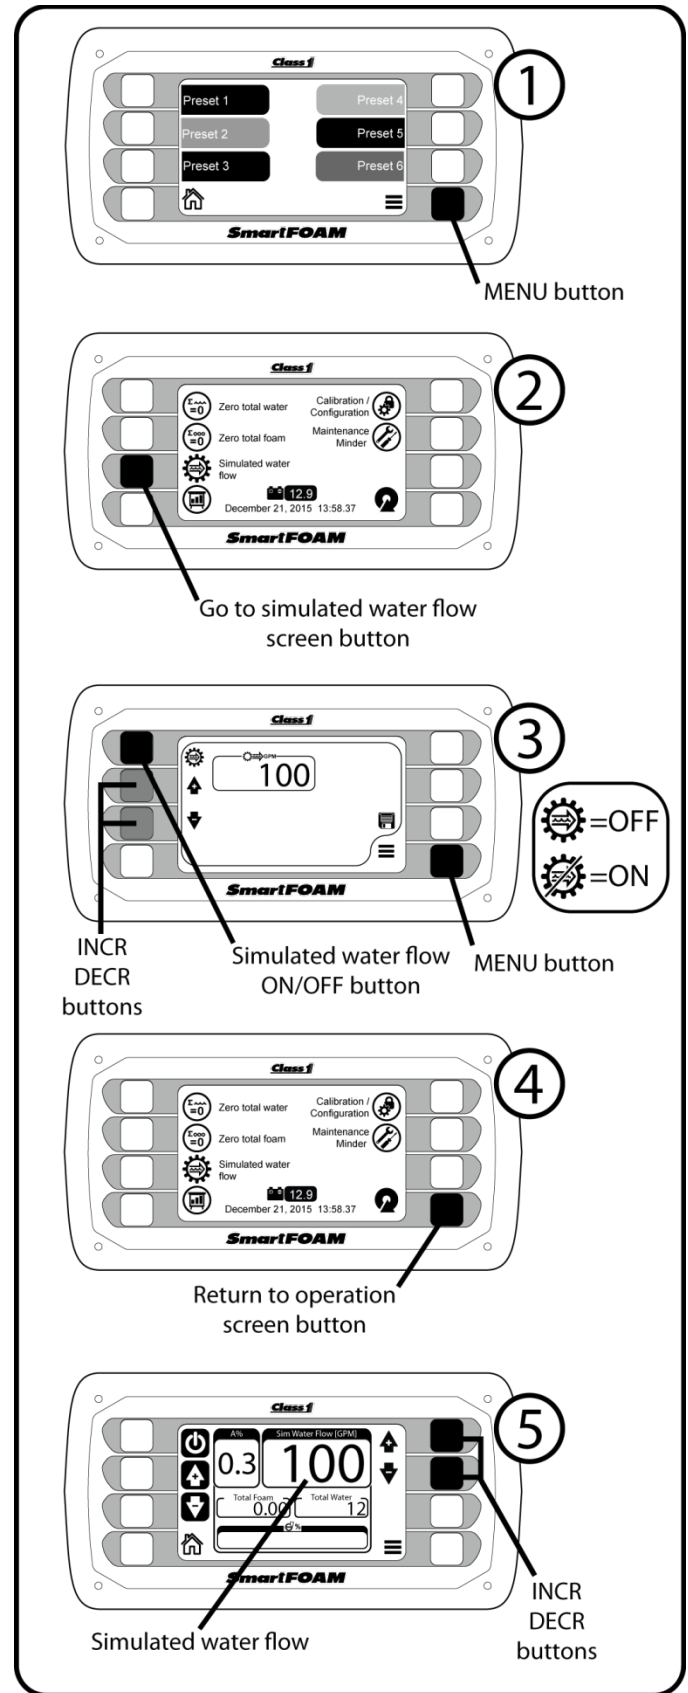

Figure 59: Setting Simulated Water Flow
7. Exit simulated water flow. Use the steps described in step 3 and **Figure 59**.